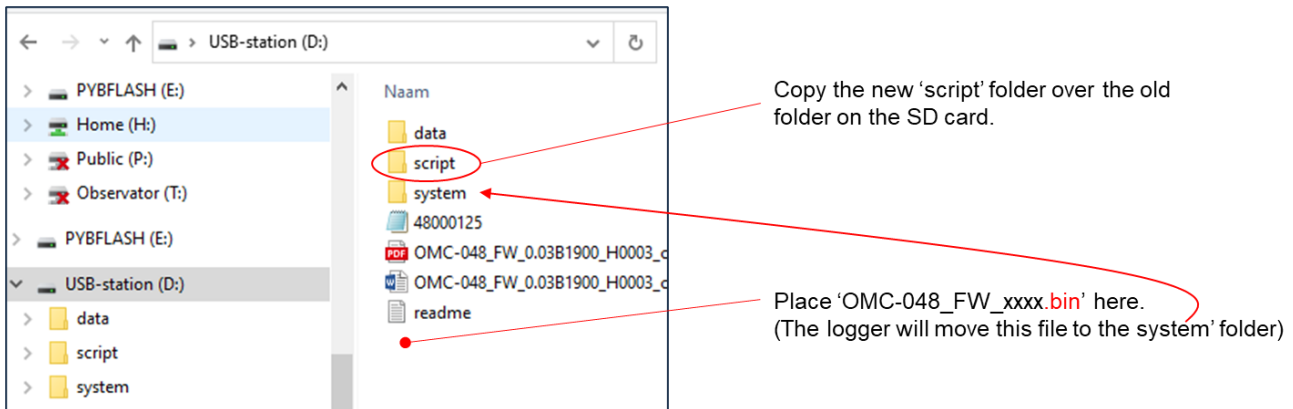

Figure 22. Installing new FW and SW is just copying the 'script' folder and the xxx.bin file.
Basically, all you need to do to update the SW & FW, is to copy a new 'script' folder (SW) and a new .bin file (FW) to the root (top) of the SD card. That's all. It is shown in Figure 22. But there are a few more details that may be relevant.
Once you have access to the SD card, you can copy the script folder from the release 'over' the script folder on the SD card. Then copy the new xxx.bin file to the root (top) of the SD card (see Figure 22). You can now hard-reset the logger in two ways: